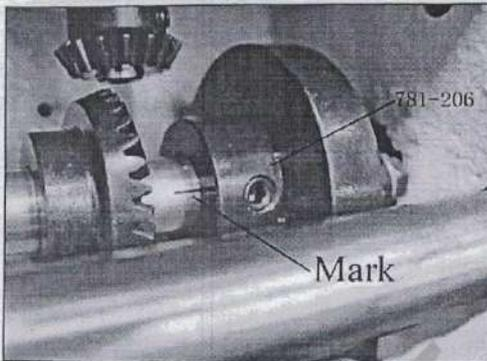
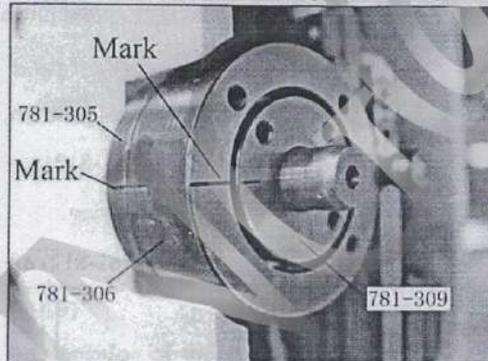

Fig.12
Fig.13
4.2 Adjusting the exchange of needles (Fig.12, Fig.13)
- Adjust the cam (781-206), till the alignment mark on the side of cam (781-206) is in alignment with the alignment mark on the main shaft. (Fig.12)
- Loosen 2 screws on sprocket wheel (781-302), turn the outer flange (781-306) till the alignment mark on its surface is alignment with the alignment mark on the front flange (781-305). Retighten 2 screws on sprocket wheel (781-302) at last. (Fig.13)
alignment mark on its surface is alignment with the alignment mark on the outer flange (781-306). Retighten 2 screws on sprocket wheel (781-301) at last. (Fig.13)